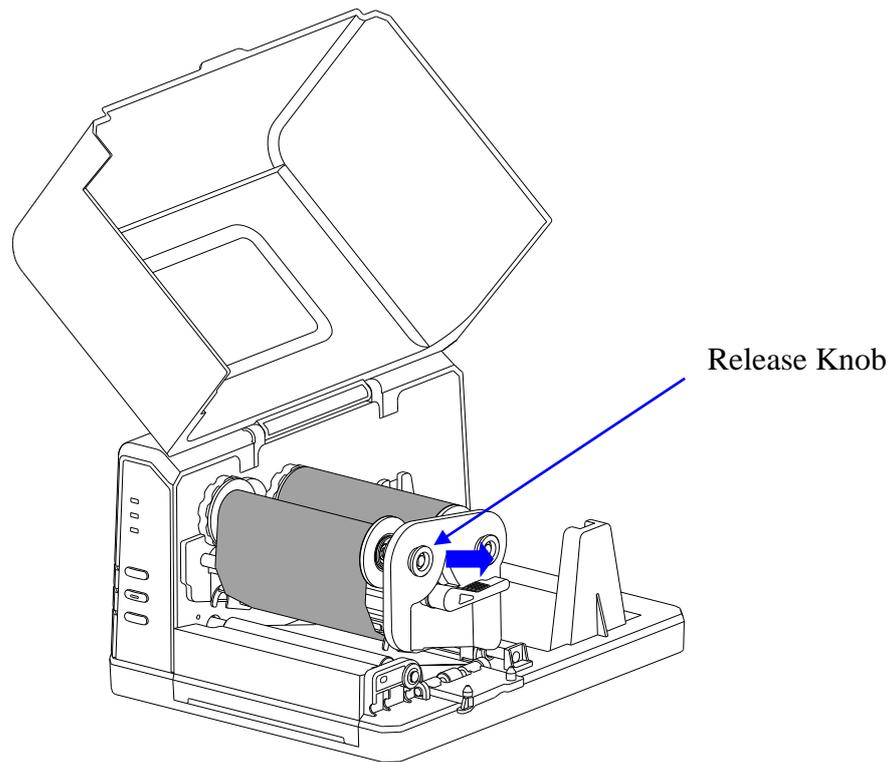

Figure 2-7 Place the Core on Ribbon Take-up
5. Pull the Release Knob of the Ribbon Take-up compartment outwards to load spare core in the Ribbon Take-up compartment. See Figure 2-7.